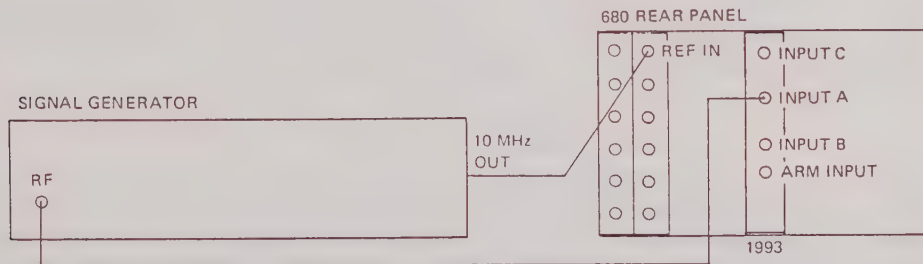

Fig 6.7 Connections for Channel A Sensitivity PVP (I)
- (1) Switch on the 680. Select 50 ohms for Input A.
- (2) Connect the test equipment as shown Fig 6.7.